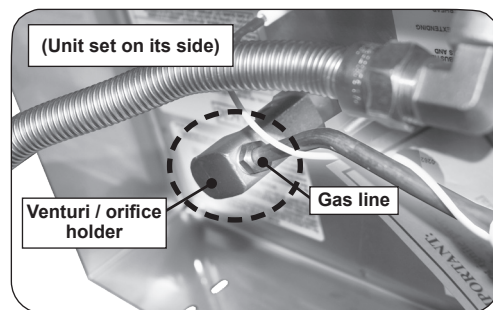

Fig. 24-2 Venturi / orifice holder
5. Detach the gas line from the venturi/orifice holder to fully remove (see Fig. 24-2).